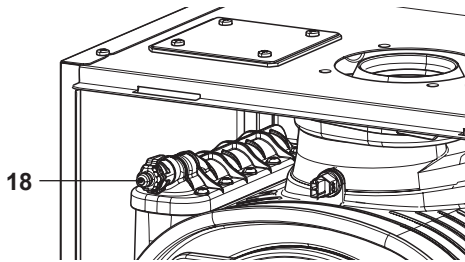

Fig. 7.3
- Before slackening the main condensing breather pipe exchanger 18 in Fig. 7.3 connect a small draining pipe to the hose nozzle to drain water out.